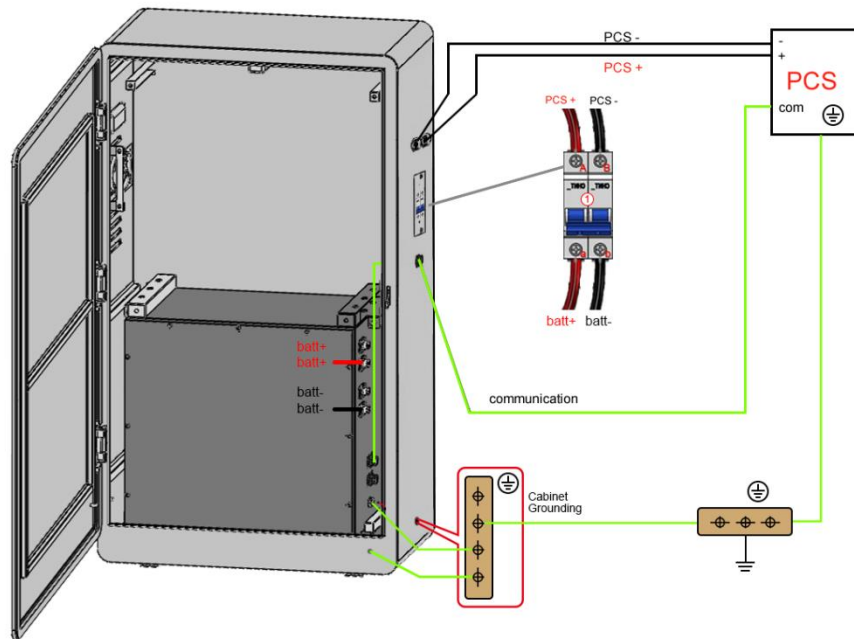

Figure 10 Cabinet wiring diagram.
- 2) Take out the communication cable, install it as shown in Figure 10, connect it to the communication port on the right side of the cabinet, and then use RJ45 to connect it to the PCS (inverter) communication port.